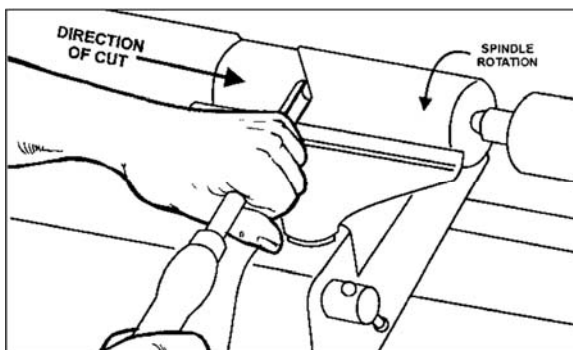

Figure 22
3. Beginning about 2" from the tailstock end of the workpiece, roll the flute (hollowed-out portion) of the tool in the direction of the cut. See Figure 22. Make long sweeping cuts in a continuous motion to rough the piece down to a cylinder.